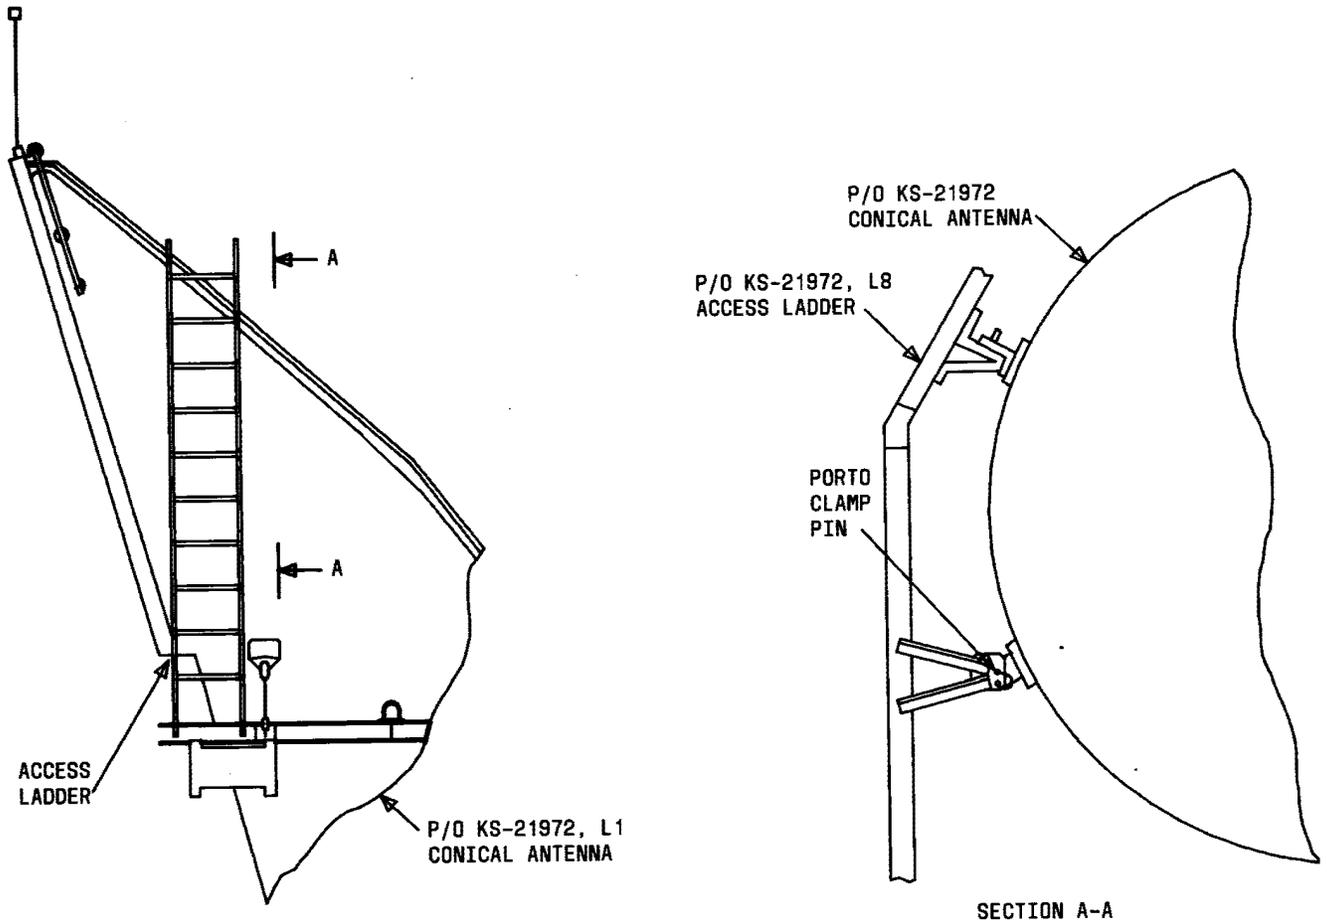

Fig. 6—Assembly of the KS-21972, L1 Conical Antenna and L8 Access Ladder
F. Assembly of List 8 to List 1 (See Fig. 6)